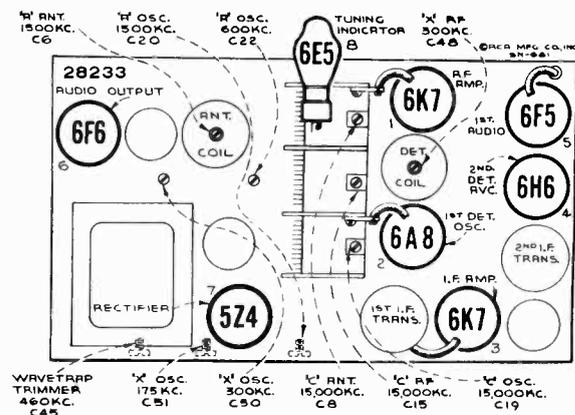

Figure 3—Radiotron and R-F Trimmer Locations
The eleven trimmers associated with the *r-f*, first detector, and oscillator tuned circuits have their locations shown by figures 3 and 6. The three trimmers which are at all times directly in shunt with the variable tuning condensers necessitate that the "Short wave" (C) band be aligned first. The range selector switch should, therefore, be turned to its "Short wave" position for the first adjustments. Leave the output indicator connected to the output system.